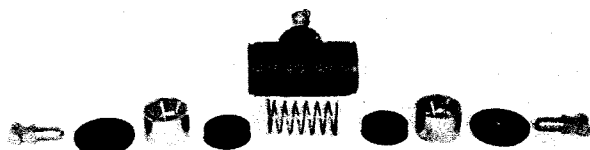

FIG. 113
1. Lubricate operating parts and inner bore of brake cylinder with hydraulic brake fluid, and install spring, two cups, and two pistons in cylinder. Install outer boots and push rods (Fig. 113).
1. Lubricate operating parts of wheel brake cylinder with hydraulic brake fluid. Insert spring, two cups, and two pistons in cylinder. Assemble boot and push rod and install assembled parts on cylinder (Fig. 113).